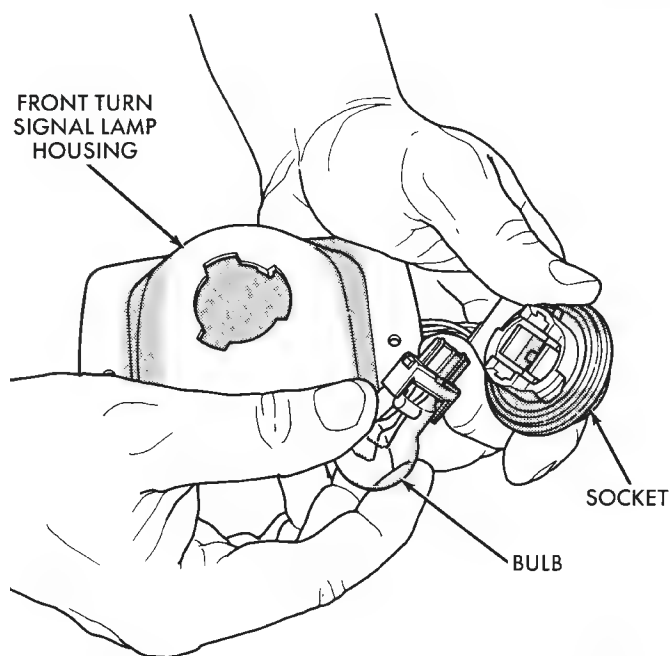

Fig. 7 Park/Turn Signal Lamp Bulb Replacement
- (1) Remove the park/turn signal lamp housing screws (Fig. 7).
- (2) Separate the park/turn signal lamp housing from the grille panel.
- (4) Turn the bulb socket and remove it from the lamp housing.